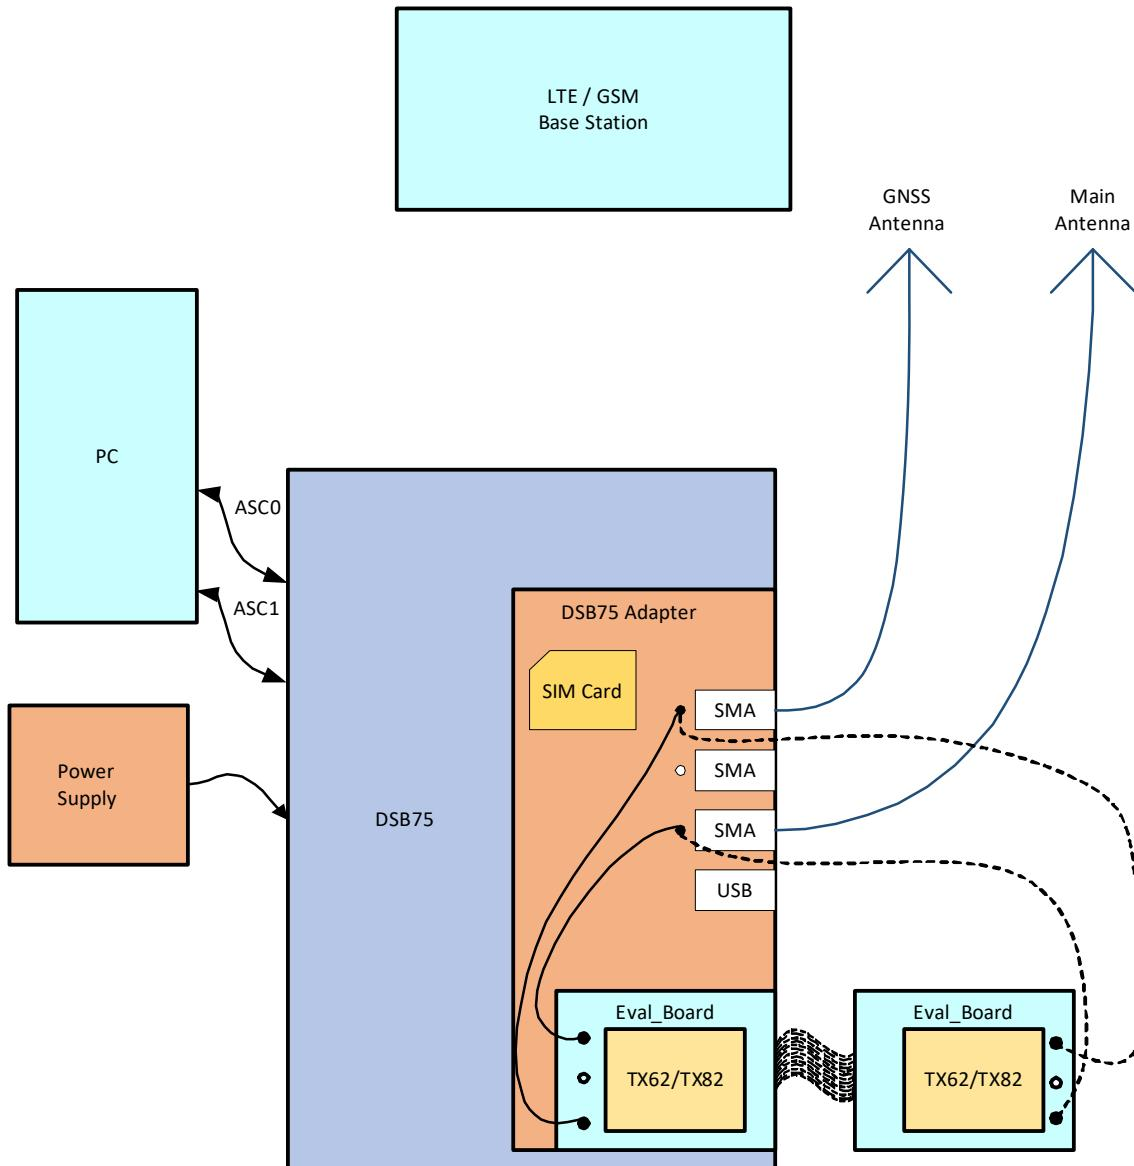

Figure 78: Reference equipment for type approval
5. For RF performance tests a mini-SMT/U.FL to SMA adapter with attached 6dB coaxial attenuator is chosen to connect the evaluation module directly to the LTE/GSM/GNSS test equipment instead of employing the SMA antenna connectors on the Cinterion® TX62/TX82-DSB75 adapter as shown in Figure 78. The following products are recommended: